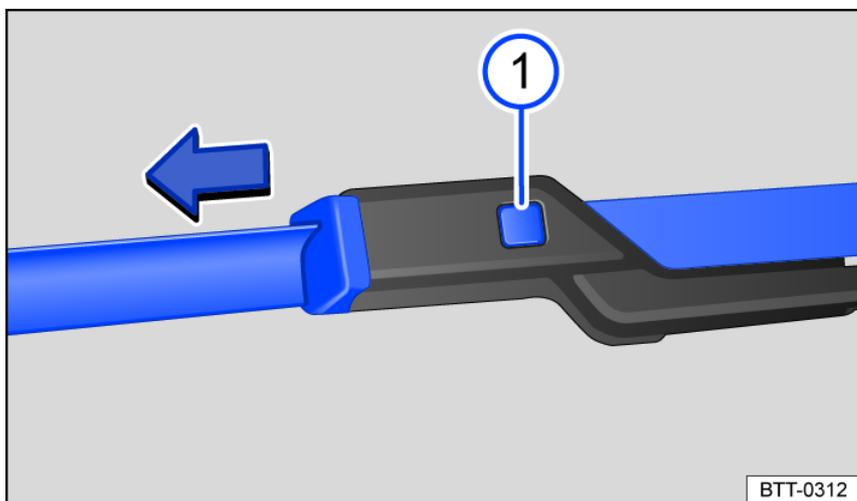

Fig. 168 Replacing the windshield wiper blades.
- Press and hold the release button and remove the wiper blade at the same time in the direction of the arrow *fig. 168* ①.